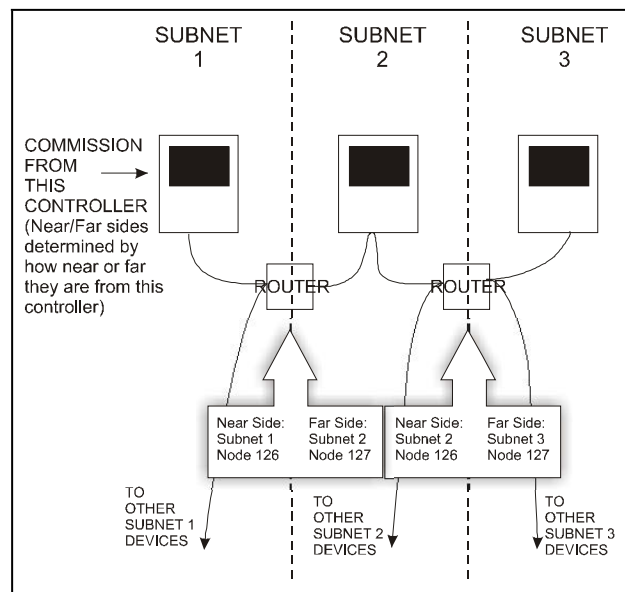

Figure 6-2 - Example: Router Setup with a Two-Router, Three-Subnet Network
2. Begin with the router directly connected to the controller you are commissioning with. Each router will have two sides, each of which exists in a different subnet. Identify which side of the router is the "Near" side and which is the "Far" side. If you are commissioning on a controller at the end of a network this should be obvious by the router's location on the network compared to the controller. See the example in **Figure 6-2**, and note how the near sides of each router are in fact the nearest sides in proximity to unit #1, the unit being used to commission.